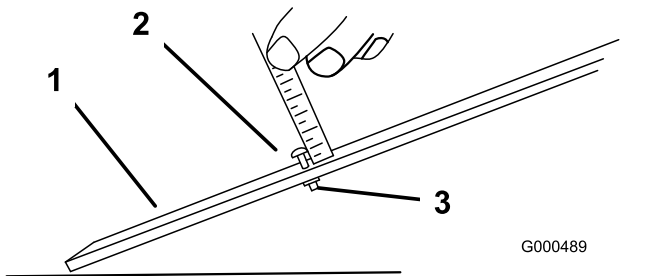

Figure 14
- Loosen the nut on the gauge bar and set the adjusting bolt to the desired height of cut (Figure 14).